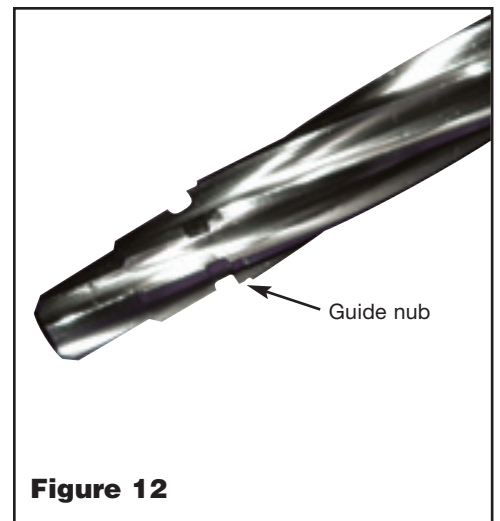

Figure 12
11. The guide nub on the large reamer cutting diameter should fit into the first valve/pump body land to be cut (see Figures 12 and 13).